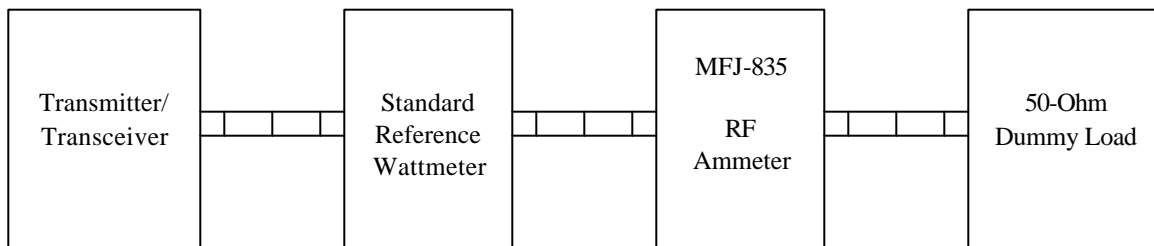
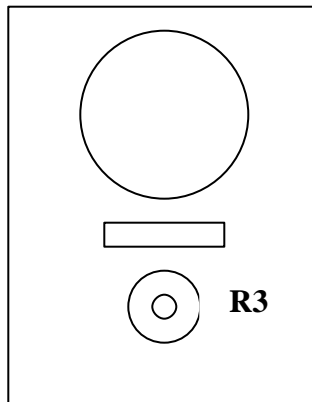

Figure 1: RF Ammeter Test Setup
Figure 2: RF Ammeter PCB Layout and Trim Pot Location
1. Refer to *Figure 1* for the Test Setup and refer to the PCB layout in *Figure 2* for trim pot location.
3. Connect the Test Setup equipment as shown in *Figure 1*. Use a 50-ohm dummy load for the antenna. Set the Transmitter to the 14 MHz in the 20-meter band.